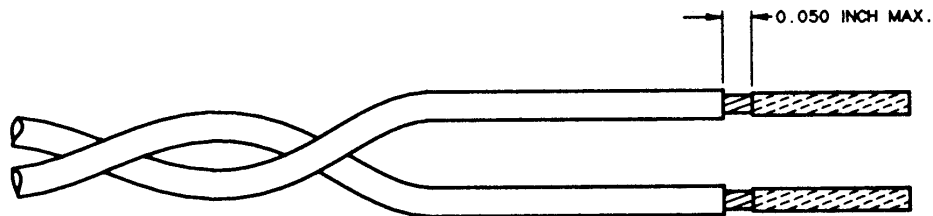

Figure 5-3. Pretinning Wires
4. Pretin the stranded wires to within 0.05 inch of the insulation, using Sn63 solder per QQ-S-571 and RMA flux per MIL-F-14256 (Figure 5-3).